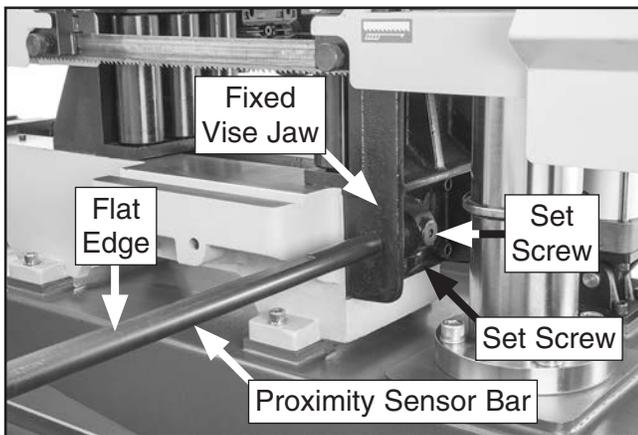

Figure 14. Proximity sensor bar attached.
1. Slide proximity sensor bar into hole in fixed vise jaw with flat edge on bar upward, as shown in **Figure 14**, then tighten set screws.